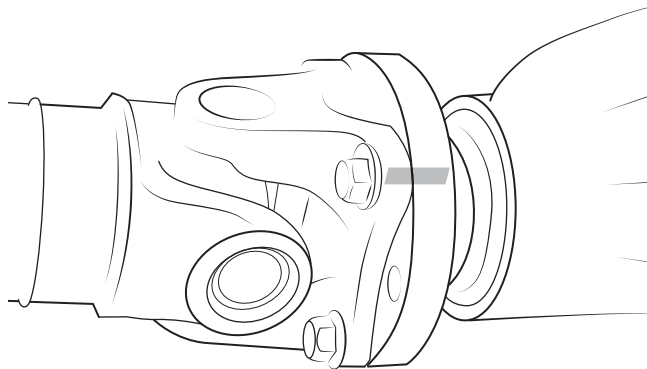

Figure 13
2. **Disconnect the drive shaft at the Axle end.** Make sure to mark both sides of the connection so you can properly align it when you reconnect it (Fig. 13). Tie loose end of the drive shaft up so it will not hang down. **Failure to follow this step may result in damage to your drive shaft.**